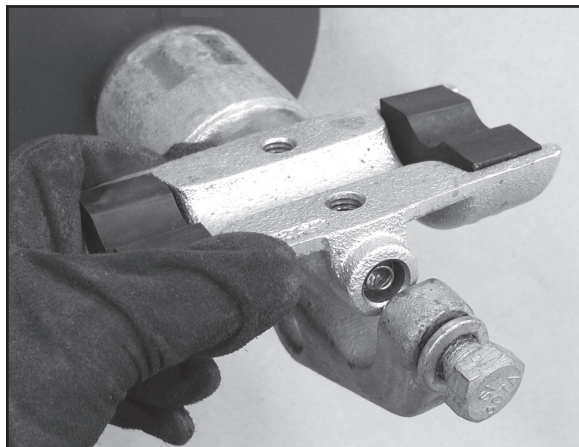

FIGURE 2 - INSTALL BASE
2.02 Install base into clamp top trunnion cap of the post insulator and tighten the trunnion cap bolt capturing the CUSHION-GRIP support base. Be careful not to lose the spring. (Figure 2)